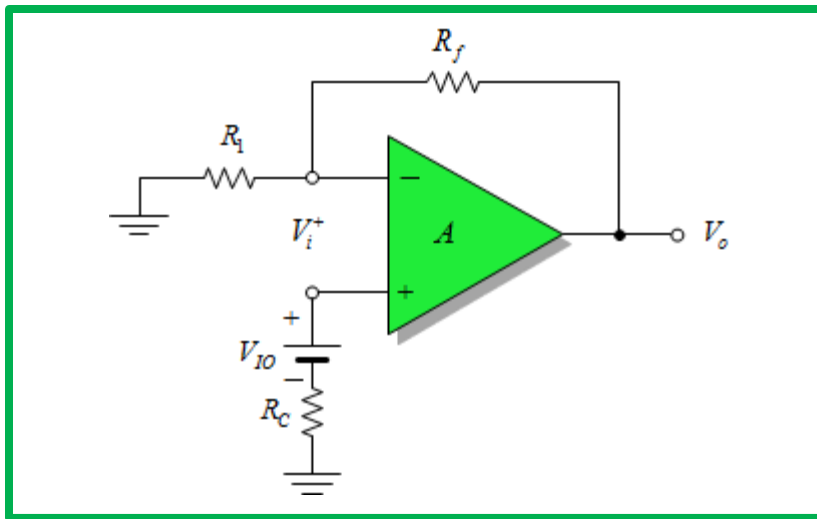

Fig. 14: Input offset voltage effect ckt.
- The manufacturer's specification sheet provides a value of V_{IO} for the op-amp. To determine the effect of this input voltage on the output, consider the connection shown in Fig. 14. Using $V_o = AV_i$, we can write
- Calculate the offset voltage of the ckt in Fig. 14 for the op-amp spec listing $I_{IO} = 100 \text{ nA}$.